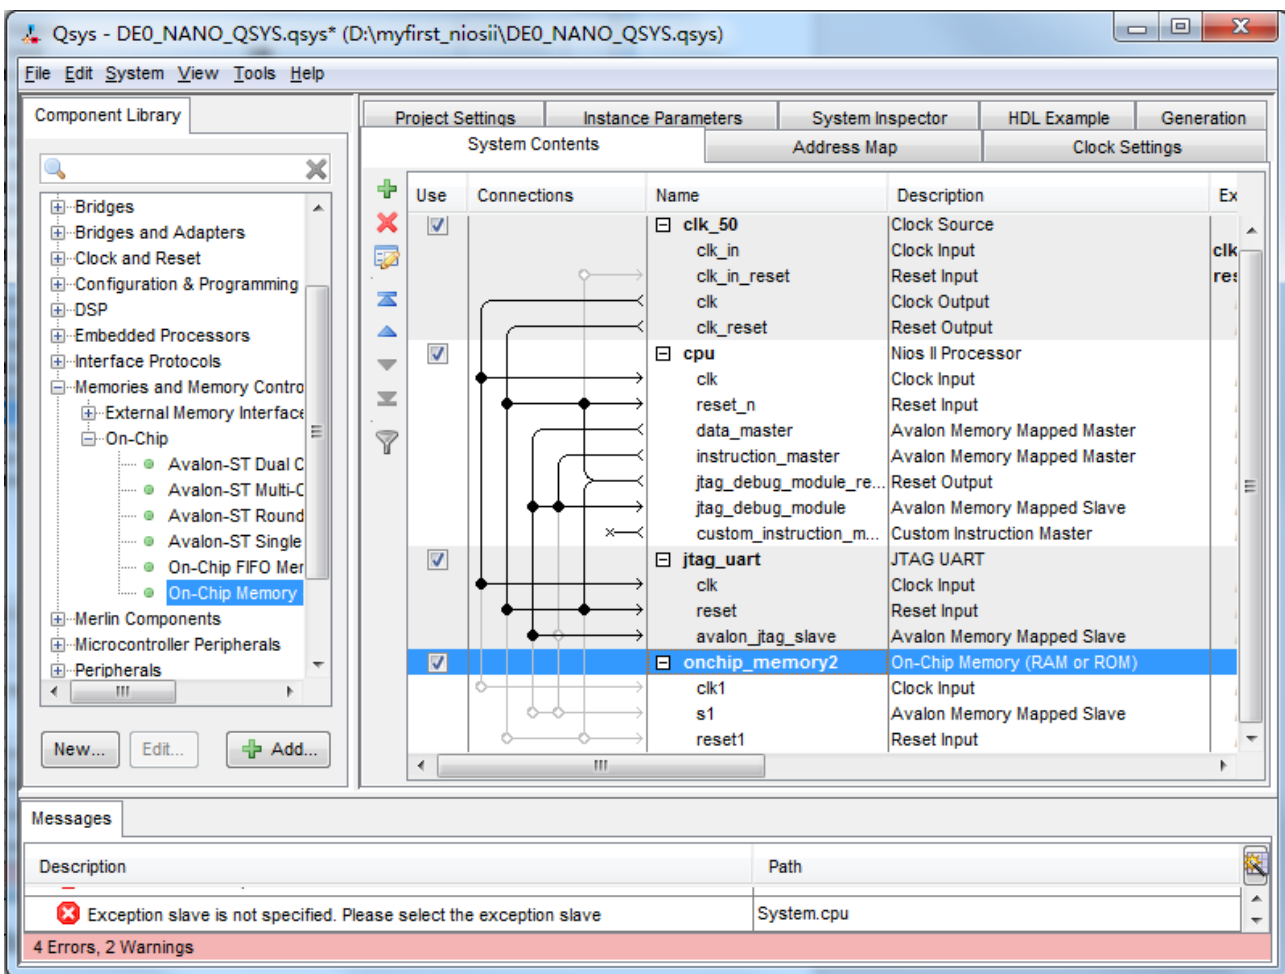

Figure 1-30 Rename On-Chip memory
18. Rename onchip\_memory2\_0 to onchip\_memory2 as shown in Figure 1-30.